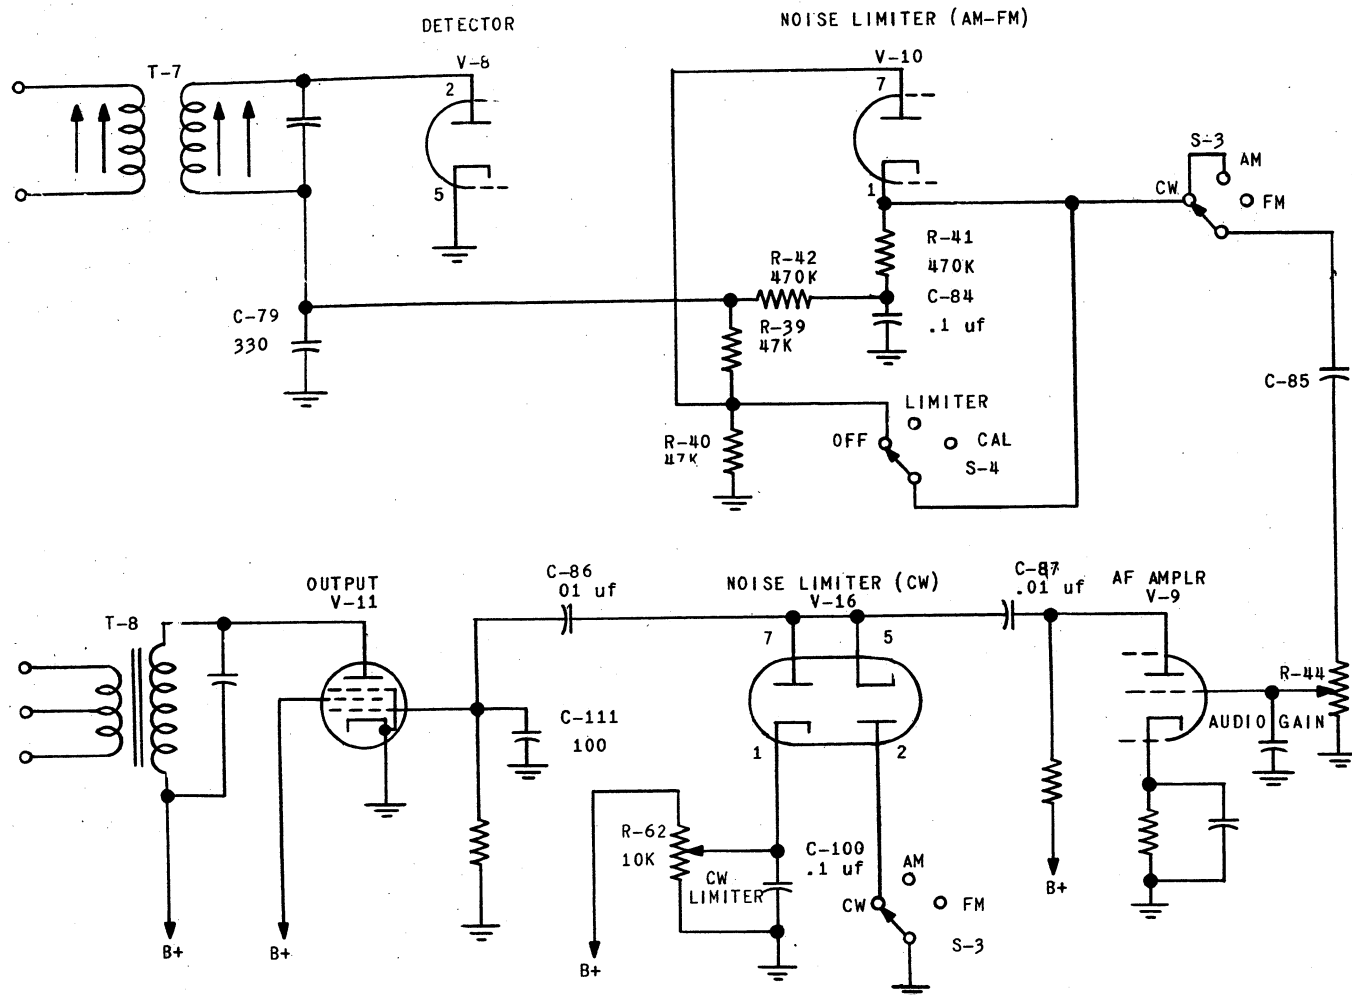

FIGURE 4-3 NOISE LIMITER CIRCUITS
4.5.4. NOISE LIMITER - A series type noise limiter is used in the 75A receiver for phone reception. This limiter employs 1/2 (pins 1 and 7) of the type 6AL5 dual diode tube V-10. Refer to figure 4-3. Due to AC loading of the second detector, heavy noise impulses are automatically clipped from the positive audio peaks in the detector. The noise appearing on the negative side of the audio cycle is clipped by the noise limiter. In operation, a negative voltage produced by rectification of the carrier, is developed across capacitor C-84. This voltage can not change rapidly due to the size of C-84 and R-42 through which C-84 is charged. This negative potential is placed upon the cathode of the noise limiter tube through R-41. The cathode is then negative in respect to the plate of the noise limiter tube and plate current flows. This plate current is modulated by the receiver audio. The modulated plate current produces audio on the noise limiter cathode (to which the grid of the audio amplifier section of V-9 is connected). The noise limiter diode will conduct as long as the cathode is negative in respect to the plate, however, when a heavy noise impulse is received, the plate is being driven negative faster than the cathode can follow (due to the time constant of R-42 and C-84). If the plate is driven more negative than the cathode, the tube will cease to conduct and no audio will reach the grid of the following audio tube. The audio cannot reach the cathode of the limiter tube directly from the bottom of the detector transformer because of the filtering action of R-42 and C-84. The percentage of modulation, at which the limiter clips, can be adjusted by changing the values of R-39 and R-40. Increasing R-39 and decreasing R-40 while keeping the sum of their resistances at approximately 100,000 ohms will raise the percentage of modulation at which limiting starts. In this receiver, limiting starts at
4.5.5. CW NOISE LIMITER - A separate noise limiter is used during CW reception. This limiter, a shunt type is bridged across the audio line to the 6AQ5 grid. This limiter short circuits the audio line on noise impulses above the level chosen by the operator. The value of limiting is adjustable by R-62, the CW LIMITER control. Refer to figure 4-3. A dual diode tube is used in this limiter. The adjusting bias applied to pin #1 is obtained from the main power supply. Capacitors C-86 and C-87 accumulate a charge so that clipping will occur equally on both the positive and negative portions of the audio cycle. This limiter is turned on automatically when placing switch S-3 in the CW position. If limiting is not wanted, the CW LIMITER control should be rotated to the counterclockwise position.